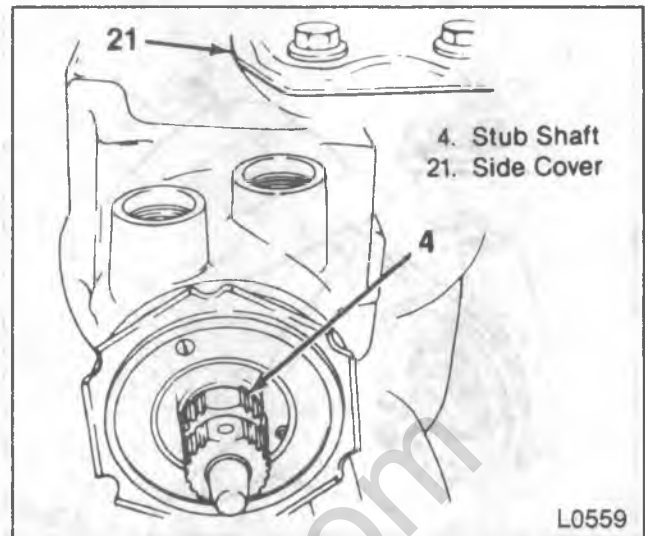

Figure 21—Aligning the Stub Shaft
1. Turn the pitman shaft adjuster screw (73) counterclockwise until fully extended, then turn back 1/2 turn clockwise.
2. Rotate the stub shaft (4) from stop to stop and count the number of turns.
- When the gear is centered, the flat on the stub shaft should face upward and be parallel with the side cover (21) (figure 21) and the master